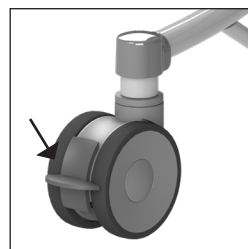

Figure 2. Swivel wheel.
- The brake can be applied on the Elexo XXL by pushing the blue lip on the wheel downwards (See figure 2).